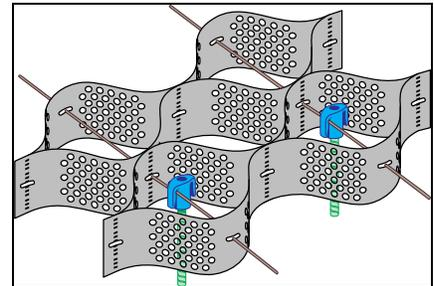

Figure 13 Internal Anchors
- Drive additional ATRA® Stake Anchors within selected cells of the expanded Geoweb® section at the specified spacing. Refer to Figure 13.